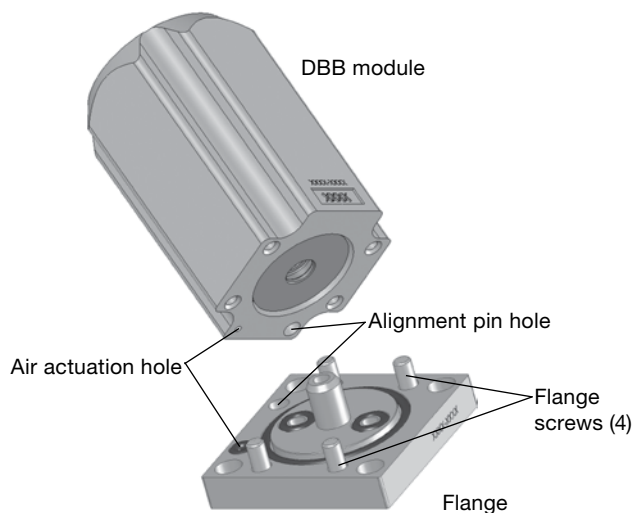

Fig. 6
3. Align the **air inlet** and **alignment pin holes** on the new **flange** with those on the bottom of the DBB module. See Fig. 6.